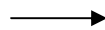

Figure 3-42
- **Live disable alarm:** Choose whether to invoke the warning message when a scene change is detected. Click the [...] button beside to display Figure 3-42.
Select **Auto** to close the warning message (Figure 3-42) automatically or select **Manual** to close it manually. Under **Delay Time(s)**, you can define the duration of a scene change to invoke the message. The range of delay time is from 1 to 99999 seconds.